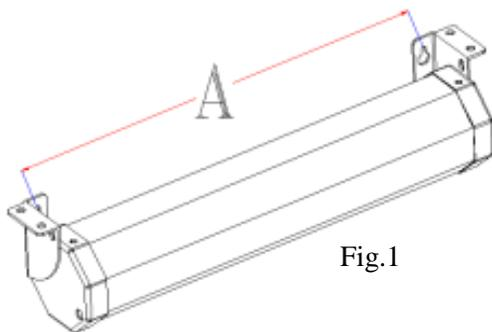

Fig.1
1. Measure distance A (shown in Fig. 1) between the 2 holes on the backside of both end caps with a measuring tape. Mark and then drill the two screw holes on the wall. (**Note: Ensure the screen will be in perfect level alignment before drilling the screw holes.**)